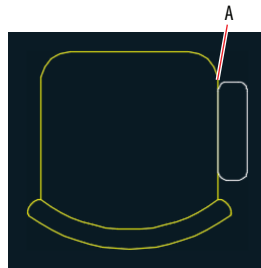

FIGURE 7.21 Drawing an armrest
3. For the first corner, click point A, shown in Figure 7.21. Then type **@3,-10** (or **@7,-25** for metric), and press Enter to complete the RECTANGLE command.